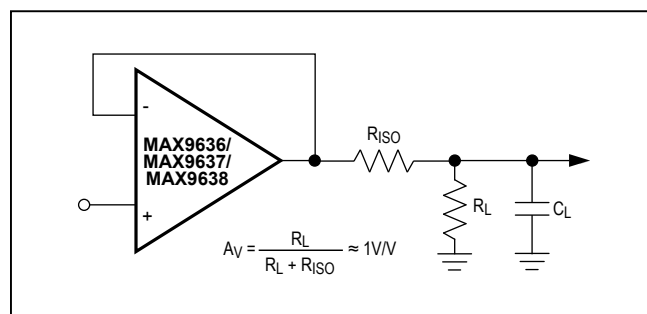
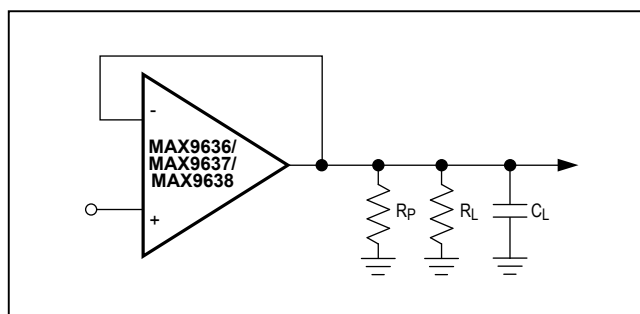

Figure 1. Using a Series Resistor to Isolate the Capacitive Load from the Op Amp
Figure 2. Using a Parallel Resistor to Degenerate the Effect of the Capacitive Load and Increase Stability
The ICs have a high tolerance for capacitive loads. In unity-gain configuration, the op amps can typically drive up to 300pF pure capacitive load. Increasing the gain enhances the amplifier's ability to drive greater capacitive loads. In unity-gain configurations, capacitive load drive can be improved by inserting a small ( $5\Omega$  to  $30\Omega$ ) isolation resistor,  $R_{ISO}$ , in series with the output, as shown in Figure 1. This significantly reduces ringing while maintaining DC performance for purely capacitive loads. However, if the load also has a resistive component then a voltage-divider is created, introducing a direct current (DC) error at the output. The error introduced is proportional to the ratio  $R_{ISO}/R_L$ , which is usually negligible in most cases. Applications that cannot tolerate this slight DC error can use an alternative approach of providing stability by placing a suitable resistance in parallel with the capacitive load as shown in Figure 2 (see the *Typical Operating Characteristics* section for graphs of the stable operating region for various capacitive loads vs. resistive loads). While this approach of adding a resistor parallel to the load does not introduce DC error, it nevertheless reduces the output swing proportionally.